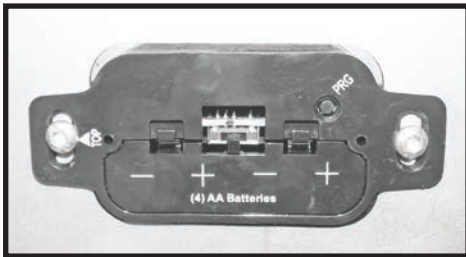

Fig. 63: On/Off switch and battery bay. Position switch in the middle to use the hand-held remote control switch.
1. Install 4 AA batteries into the Trenton battery bay (Fig: 63) located on the rear side of the Trenton. Install the ON/OFF switch cover (Fig: 64) over top of the battery bay. Make sure that the selection switch is on the "Remote" setting.